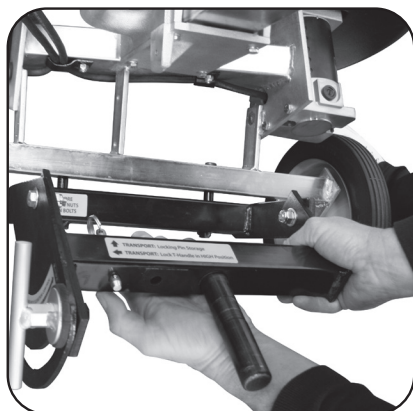

Figure 6 Attaching throwing head to undercarriage.
2. Using wing nuts which are stored on bolts, attach throwing head to undercarriage, tighten wing nuts securely to passing stand (See Figure 6).